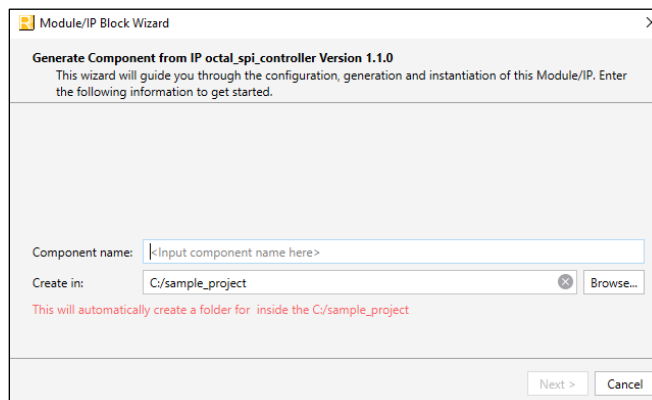

Figure 7.1. Module/IP Block Wizard
7. Click **Finish**. All generated files are placed in the directory specified by the **Component name** and **Create in** fields shown in Figure 7.1.